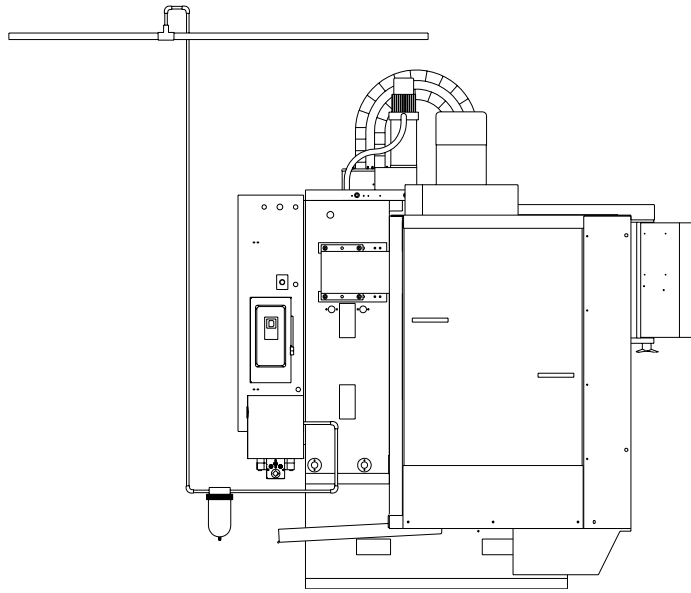

Figure 2-4: Attach Drain to Lowest Point of Air Supply Line
3. A "T" riser should be used to connect the main air supply line with the air supply line to the VMC (see figure 2-4).
4. To prevent moisture from entering the VMC's air system, attach a drain to the lowest point of the air supply line. (See figure 2-4). The drain could be a self-relieving moisture separator, a simple petcock, or a gate valve opened occasionally to release the water build-up. An air dryer is preferred where higher moisture levels exist.